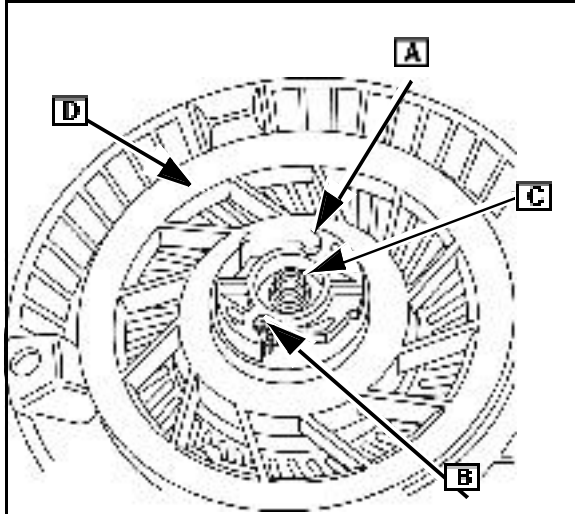

Fig. 22
8. Lift out starter pawls (A) and pawl springs ([B]).
9. Remove brake spring (C).
10. Rotate pulley and spring assembly ([D] Fig. 22) until pulley feels free.